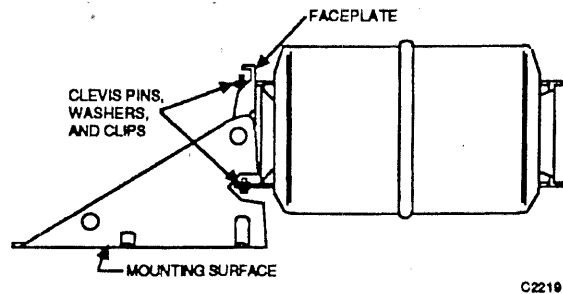

Fig. 14. Removing Faceplate.
- Remove two clevis pins, washers, and clips, and disconnect actuator from faceplate (Fig. 14).